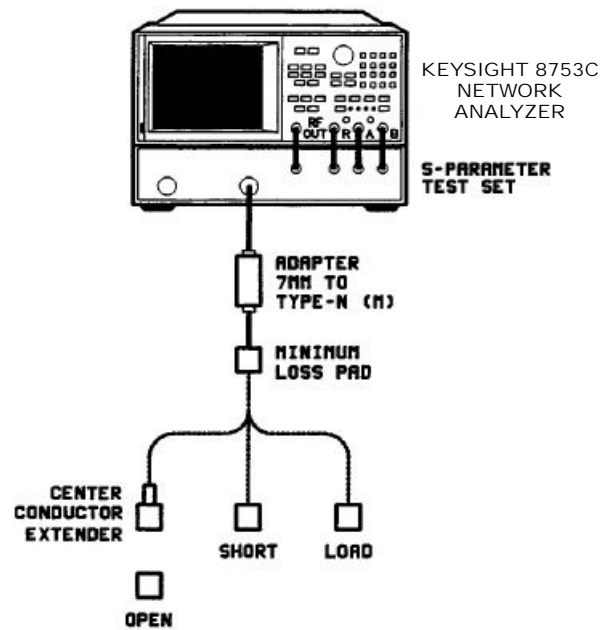

Figure 3-4 Equipment setup for a 522 1-port measurement calibration
- When prompted, connect the standards as shown in Figure 3-4.